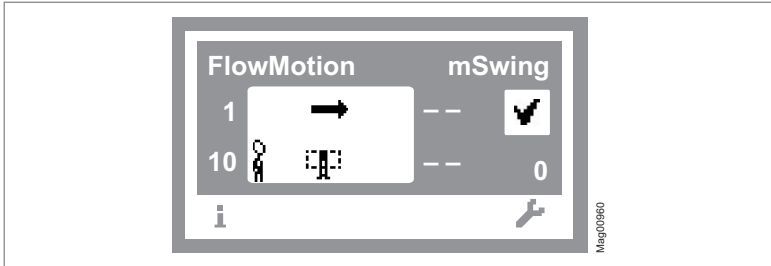

Fig. 14: Example "Operational view"
12. Press the left button «» repeatedly until the operational view is displayed again. ➔ Page 34, Fig. 14.